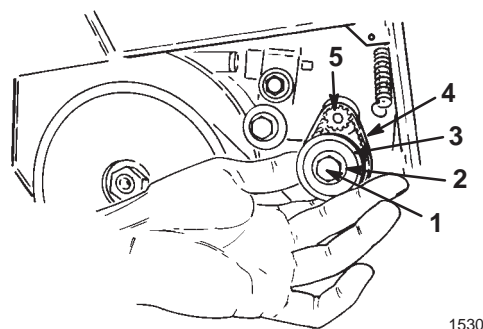

Figure 22
4. Remove the two washers and the small pulley (Fig. 22).
5. Remove and discard the small belt (Fig. 22).
8. Slide the belt over the motor shaft pulley (Fig. 22).